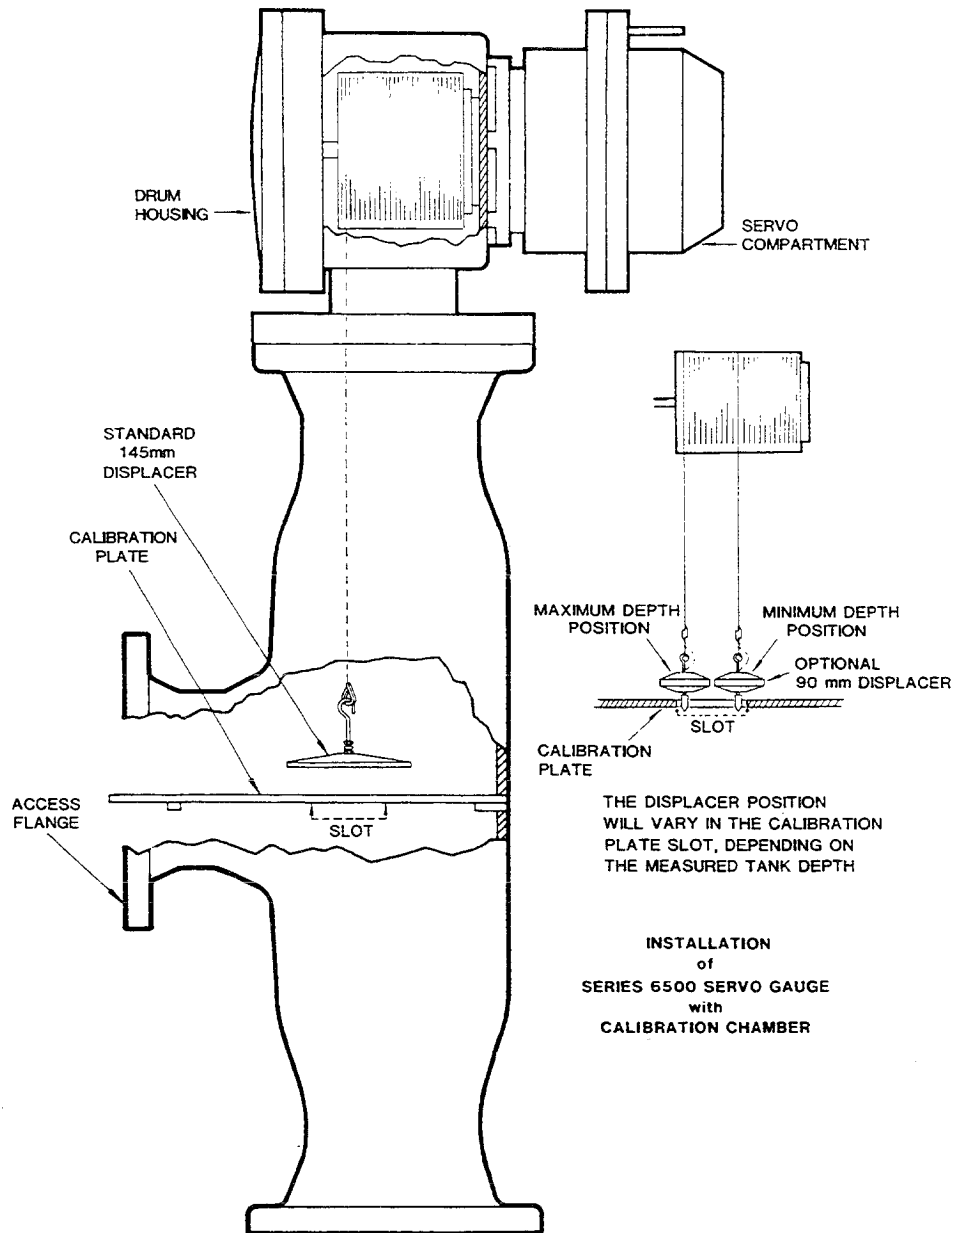

Figure 4-2 Calibration Chamber With Calibration Plate
2. If calibration is performed during start-up of the servo gauge, it is assumed the calibration chamber cover is already removed. For maintenance or service calibration, remove the blind flange cover, gasket, and calibration plate from the calibration chamber. Refer to Figure 4-2, Calibration Chamber With Calibration Plate.